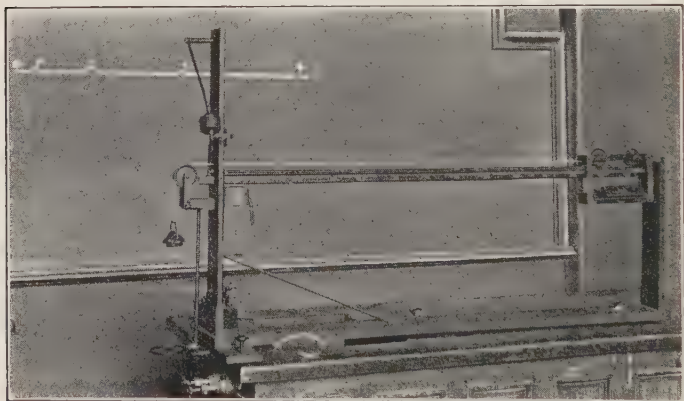

FIGURE 510. — ACCELERATED MOTION MACHINE.
**EXPERIMENT 126.** — Place an easily moving car, containing a 100-gram weight on an inclined plane with slant enough to allow gravity to overcome the slight friction of the car. Attach a long paper tape to this car and pass the tape over a flanged pulley at the end of the plane (Figure 510). Below the pulley fasten a 100-gram weight to the tape. Mount a pendulum with an inked brush just ahead of the pulley so that, as it